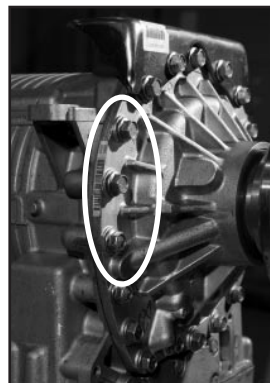

Fig. 13
13. The 3 bolts on the transmission that will line up with the bracket holes must be removed. New longer Bolts (380075 M12-1.75" x 55) will be used for mounting the bracket to the transmission. (**Fig. 13 & 13a**).